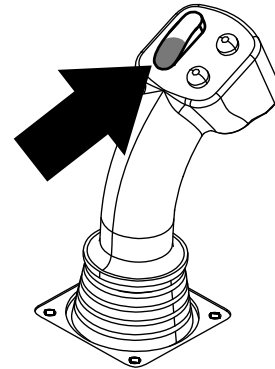
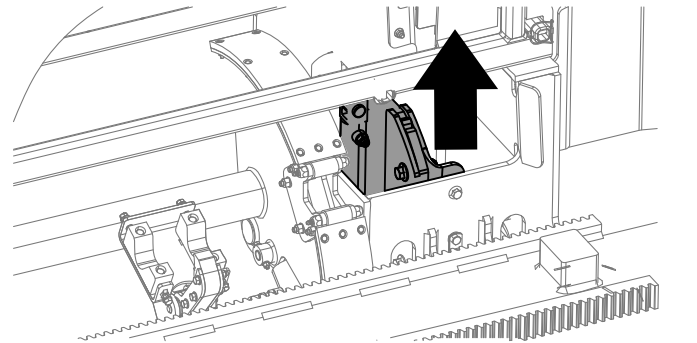

Figure 21
Figure 22
11. Hold the lower section of the rocker switch (Figure 21) until the elevator puts the pipe back in the pipe box and the cam rotates to the home position (Figure 22).